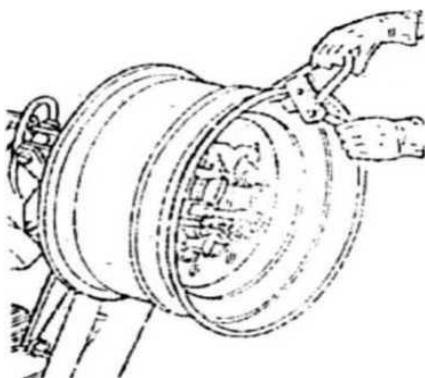

Fig13
- 3) Clamp the pliers at the highest point on the outside of the edge of the rim(Figure 13)